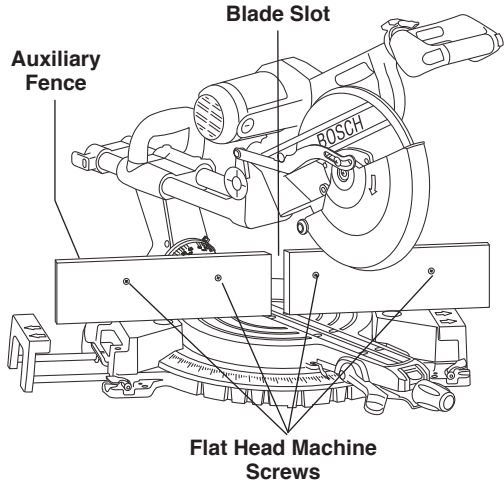

Figure 24. Auxiliary Fence
1. Place a piece of wood against the miter saw fence (Figure 24). (Wood can have a maximum height of 4-1/2". Check that auxiliary fence assembly does not interfere with head assembly.